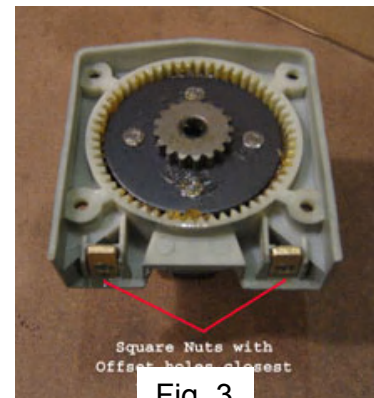

Fig. 3
6. Place the Square Nuts back in the Housing with the offset holes closest to the table. Place the Drum Support over the end of the housing, making sure that all the holes for the bolts line up correctly. [See Fig. 3]